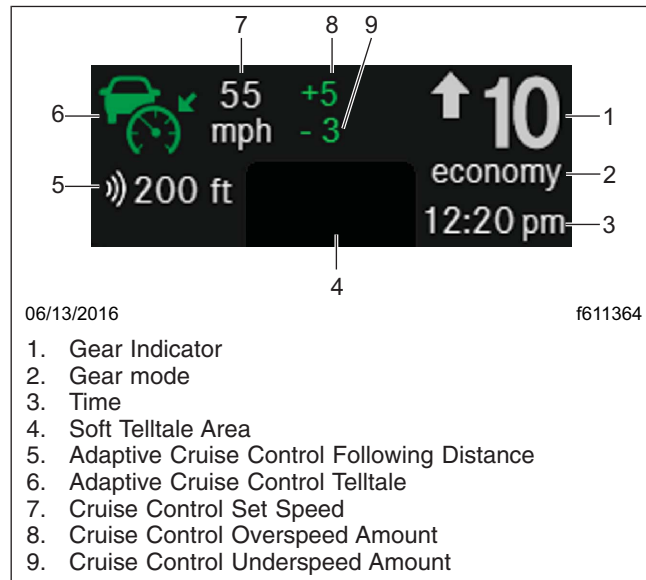

Fig. 7.2, Static Menu, ICUC
- **Cruise Decelerate/SET Button**—Press to set the cruise speed while the vehicle is traveling at the desired speed. Press and hold to decrease the set cruise speed by 5 mph increments (Detroit Diesel engines only). Single press decreases cruise speed by 1 mph. When cruise control has been set, the driver display static menu in the ICUC shows relevant cruise control icons and the set speed. See Fig. 7.2. The speed memory is retained until the ignition is turned off.